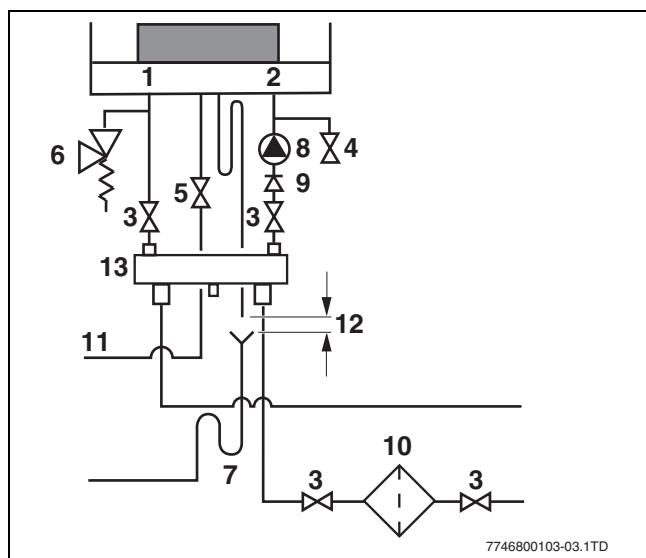

Fig. 13 Connecting the boiler supply and return
- To prevent contamination in the heating system we recommend you integrate a dirt filter (→ fig. 13, [10]) in the return pipe, near the boiler. In an old system it is a requirement to install a dirt filter. Also install shutoff valves to enable filter cleaning immediately upstream and downstream of the dirt filter (scale cartridge or y-strainer)
- Connect the supply pipe with a flat rubber seal installed to the Supply connection (→ fig. 13, [1]) making sure it is not under stress. Use a supply pipe with a minimum diameter of 1½" (38 mm).
- Connect the return pipe with a flat rubber seal installed to the Return connection (→ fig. 13, [2]) making sure it is not under stress. Use a return pipe with a minimum diameter of 1½" (38 mm).
- Install the pump (→ fig. 13, [8]) in the return circuit (→ fig. 13, [2]).